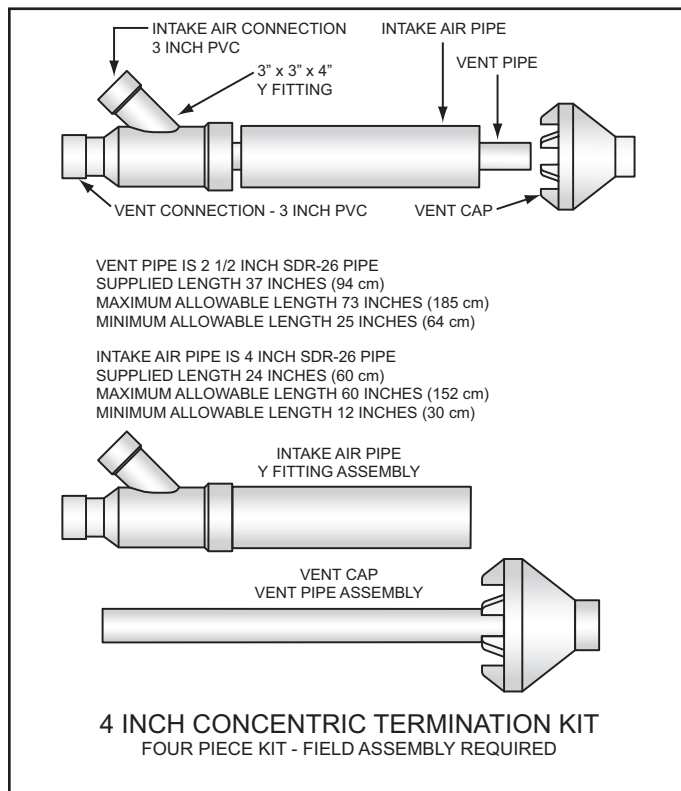
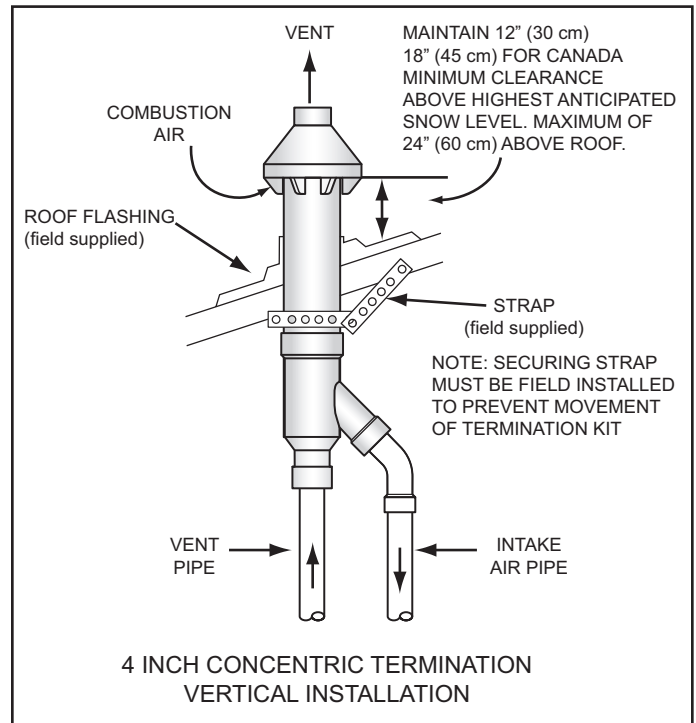
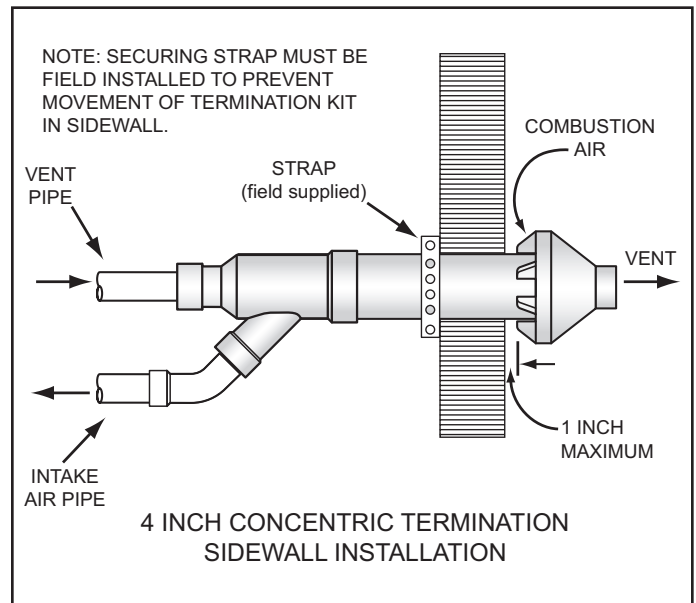

Figure 25
Figure 26
Figure 27
3. When installing a concentric termination vertically through the roof; ensure that all exterior vertical clearance requirements for the concentric termination, shown in Figure 26 on page 29 are being maintained. These clearances and those cited by local and national codes must be maintained.
See Figure 25 on page 29 for the maximum and minimum lengths allowed for the 4 inch concentric termination.
Assemble and install the 4 inch concentric termination. Refer to Figure 25, Figure 26 and Figure 27 for these instructions: